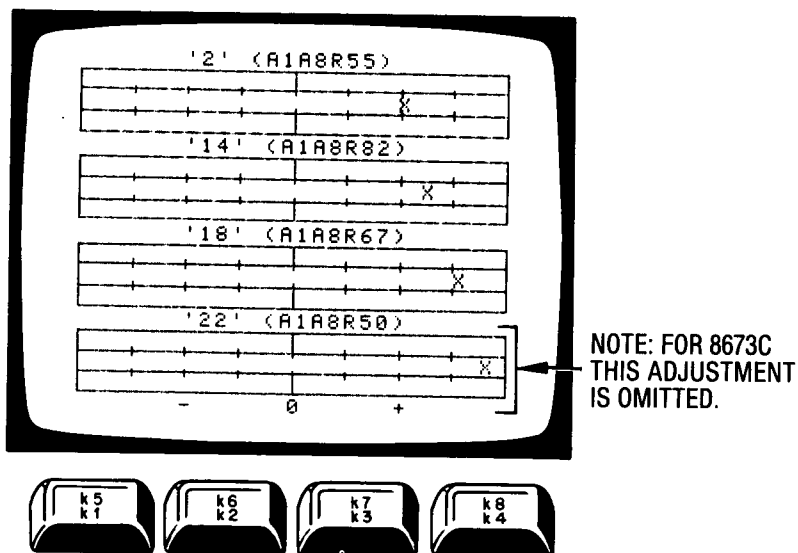

Figure 5-40. Flatness Adjustment
- d. Three or four axes for the 8673C and 8673D respectively, representing the slope adjustment for each flatness region, are drawn on the controller screen (see Figure 5-40). The center of each axis represents zero error (the optimum slope for that region). The "X" is adjusted as close as possible for zero error.